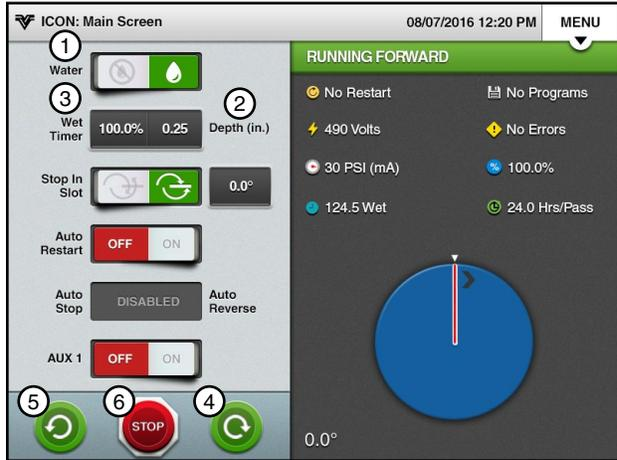

Figure 54-1 1. Water On 2. Depth 3. Wet % Timer 4. Start Forward 5. Start Reverse 6. Stop
1. Push the **Water** button on the Main Screen to turn the water on. Refer to Figure 54-1.